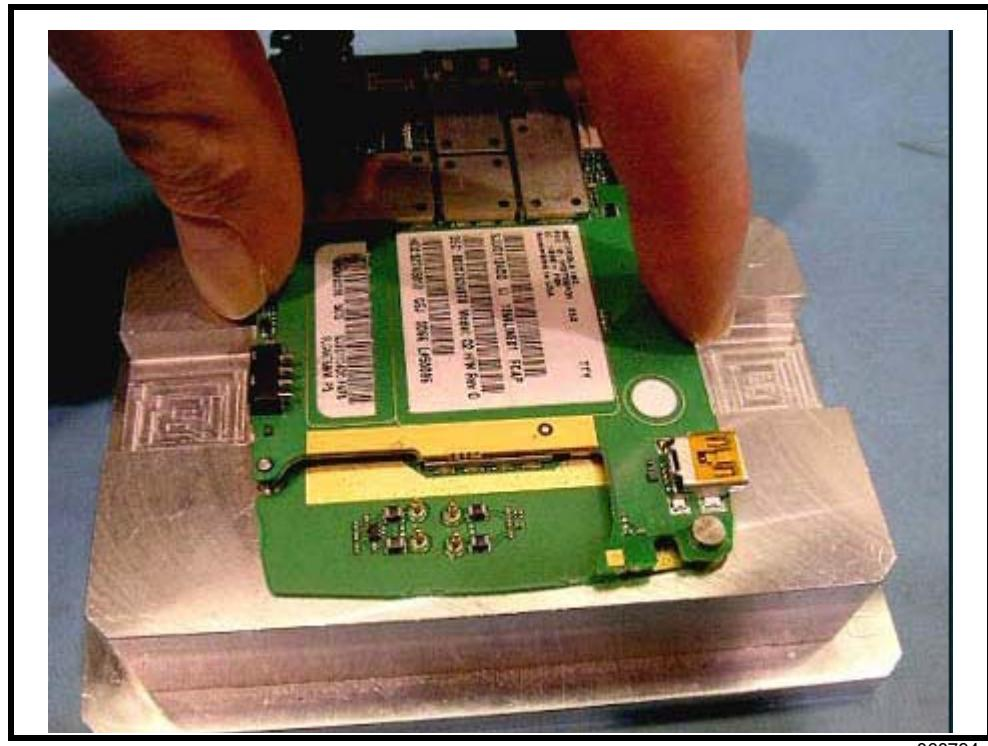

Figure 22. Keyboard Assembly Fixture
8. Attach the main board to the keyboard using the keyboard assembly fixture (see Figure 22). Avoid contact with nearby board components.